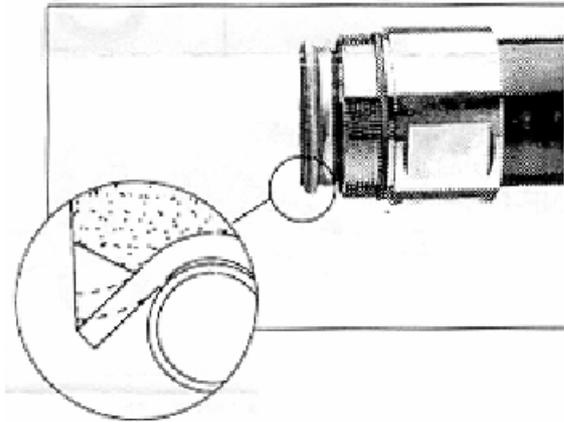

Figure C-18 Stretching outer conductor
- 12) Expand the outer conductor with a fast cable stripper (fitting the feeder type). Check the stretching surface and clean off the residuals, as shown in Figure C-18.